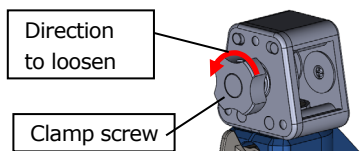

Fig.10
- When loosening the clamp screw of the Compact Head Holder II, stop if you feel resistance to the operation (Fig. 10). The clamp screw is processed to prevent the part from coming off, but if the clamp screw is too loose, it may not operate properly due to sticking of the screw part, or